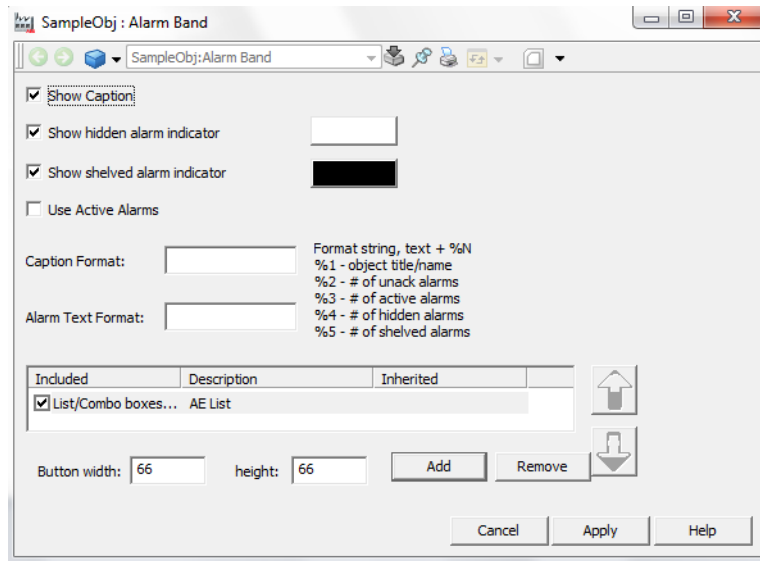
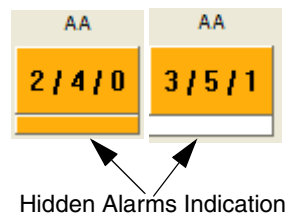

Figure 77. Alarm Band Aspect - Config View
Figure 78. Hidden Alarms Indication
2. Create an Alarm Band aspect and open its Config View, see Figure 77.
The result of the configuration according to Figure 77, is displayed in Figure 78.
The alarm band shows an indication of hidden alarms. It indicates the fact that alarms are hidden and it provides a link to open the list of Hidden alarms. In Figure 78 the alarm band to the left indicates that there are 2 unacknowledged, 4